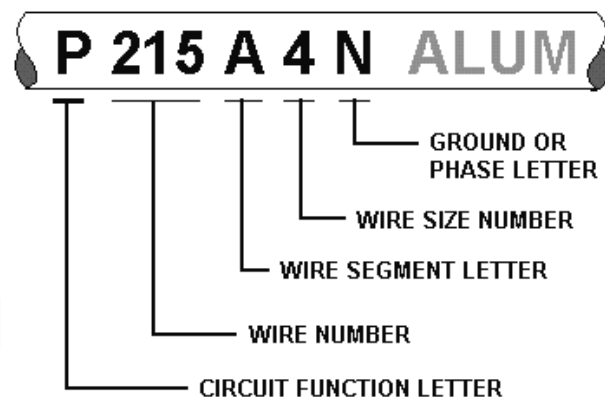

Figure 3-3.—Aircraft wire marking.
All aircraft wiring is identified on wiring diagrams exactly as the wire is marked in the aircraft. Each wire is coded by a combination of letters and numbers (figure 3-3) imprinted on the wire at prescribed intervals along the wire run.
Look at figure 3-3. The circuit function letter (P in this example) identifies the basic function of the circuit concerned. The letter P indicates that the wire is in the dc power distribution system of the aircraft. The wire number, 215, indicates that it is the 215th wire in the dc distribution system. The wire segment letter (A) identifies the position of each wire segment of the circuit. The wire segments are lettered in alphabetical sequence and change each time the wire passes through a terminal or connector. For example, after the wire passes through the first terminal or connector, the segment letter A, as in this instance, would change to B.